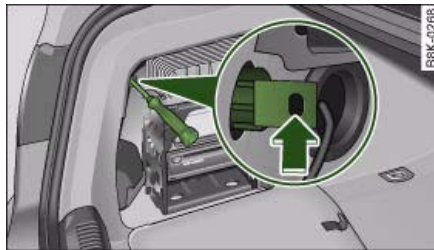

Fig. 302 Luggage compartment: Location of retaining screw for rear light
- Insert the screwdriver (from the tool kit) through the side opening in the plastic screw ⇒ fig. 302.